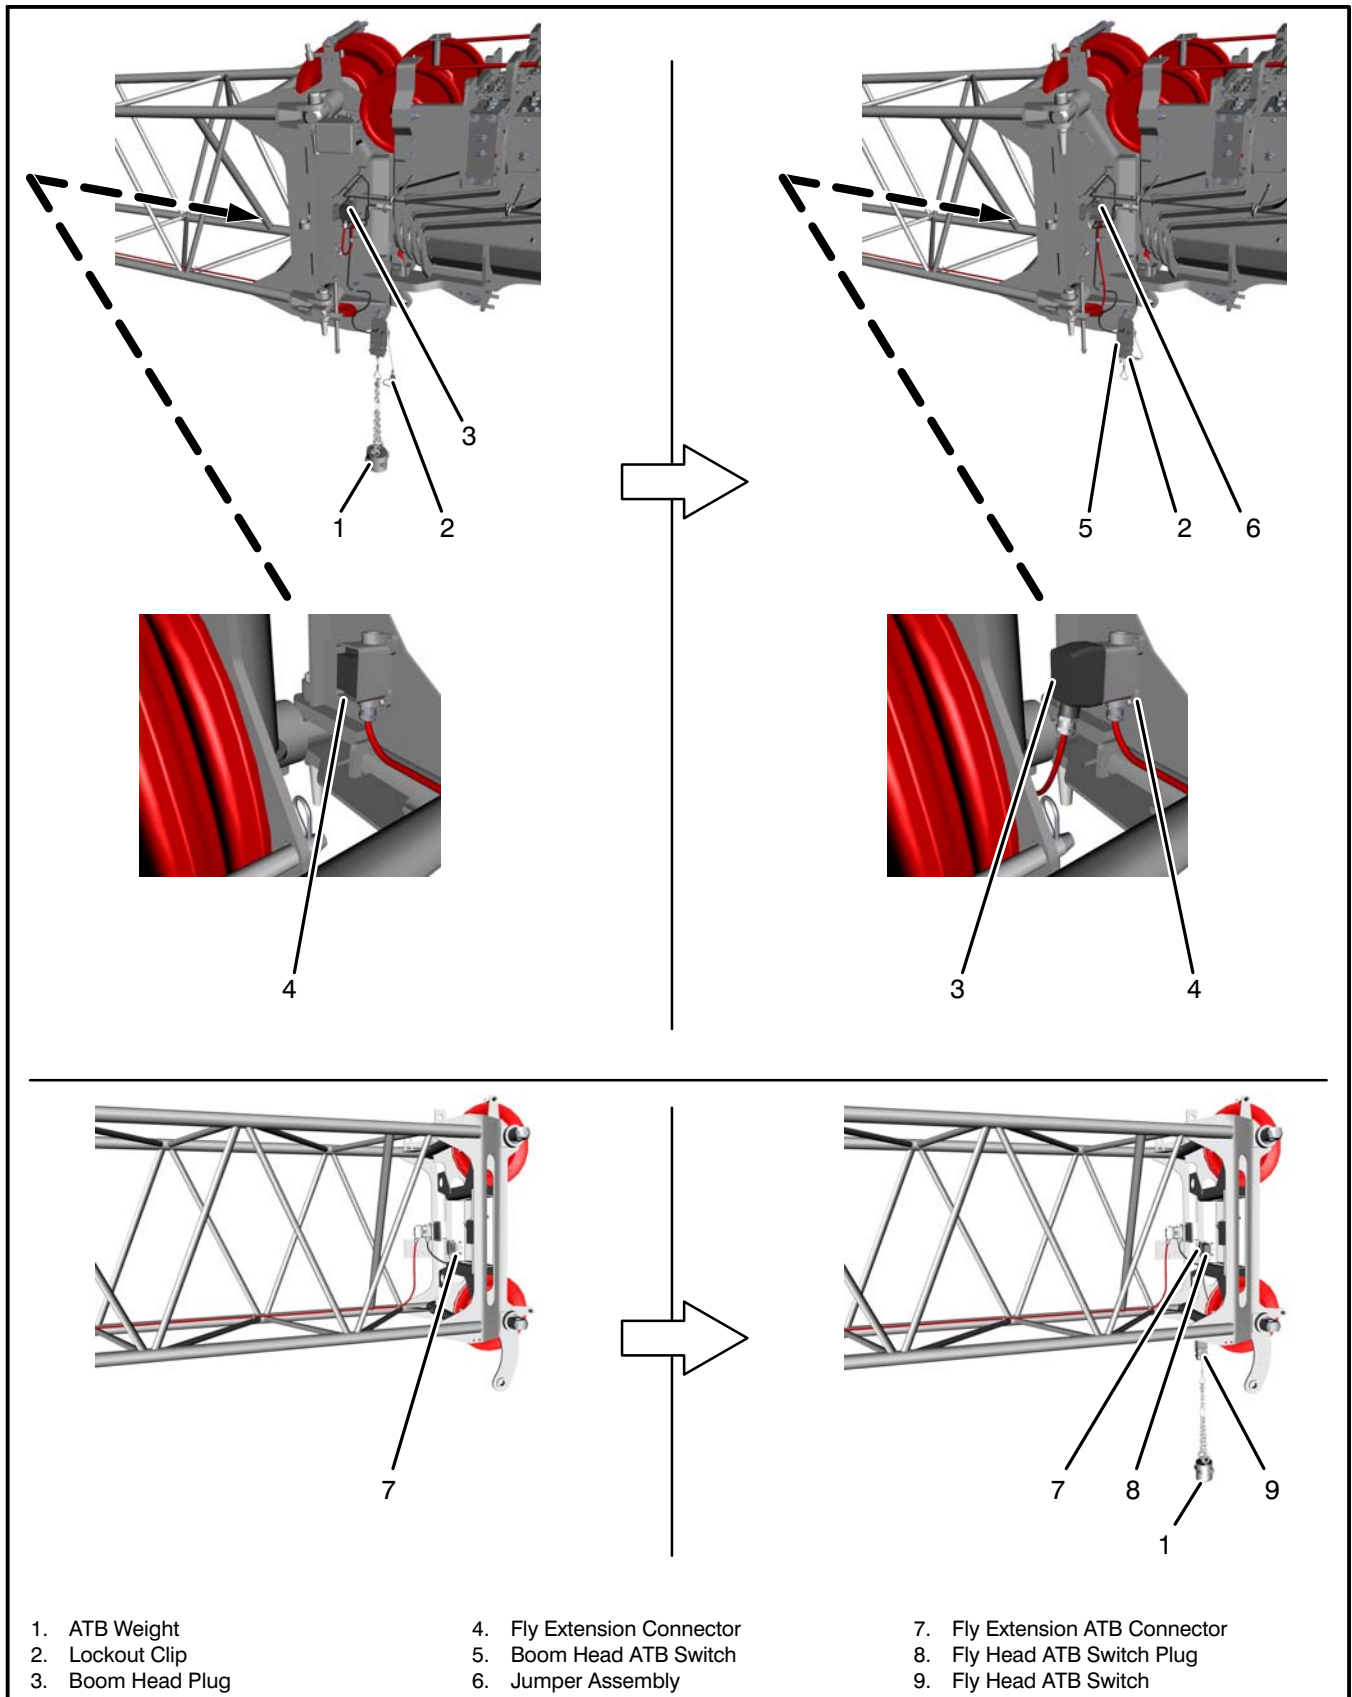

Figure 4–69
- a. Remove the ATB weight from the fly head ATB switch cable. Refer to Figure 4–70.
- f. Disconnect the boom head plug from the fly extension connector and connect it to the jumper assembly on the main boom head. Refer to Figure 4–69.
Note: If the 16 ft (4.88m) fly extension is configured for panel lifting, omit steps e and f. Refer to Figure 4–68.
- a. Remove the ATB weight from the fly head ATB switch cable. Refer to Figure 4–69.